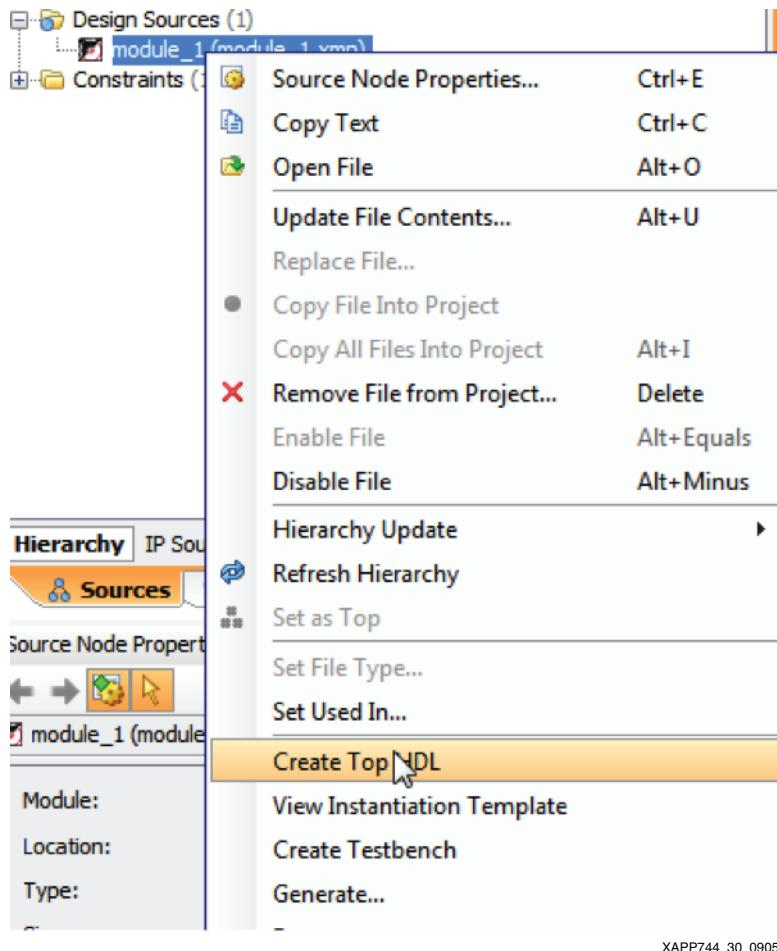

Figure 30: Creating Top-Level HDL File
1. Right-click the embedded source (.xmp) file name and click **Create Top HDL** as shown in Figure 30. When the Top HDL is created, ensure that the ports that were marked external in the EDK tool show up in the Top HDL. These signals are driven from the testbench.